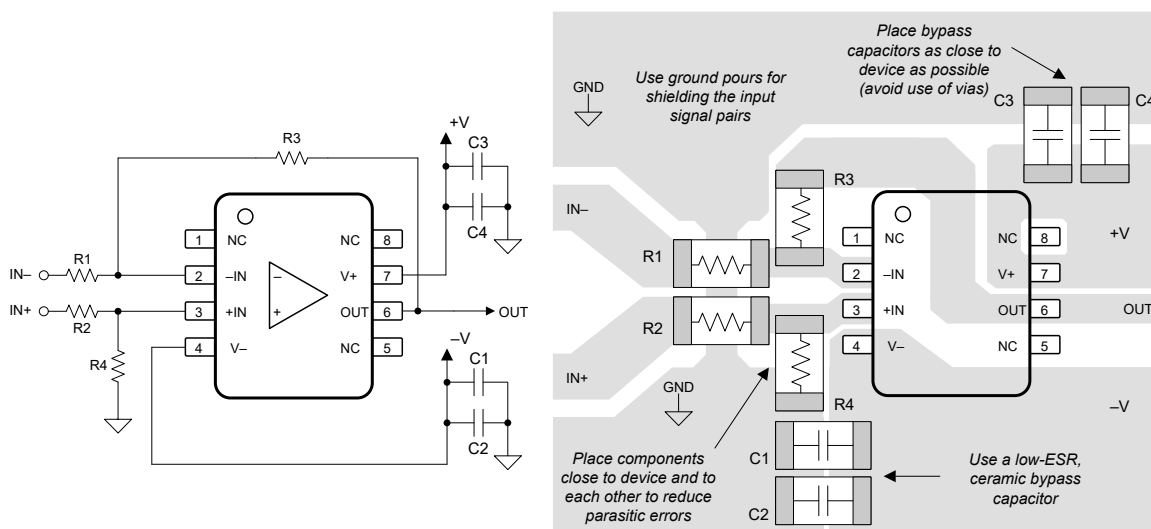

Figure 8-7. Operational Amplifier Board Layout for Difference Amplifier Configuration
- Place the external components as close as possible to the device. As Figure 8-7 shows, keep the feedback resistor (R3) and gain resistor (R4) close to the inverting input to minimize parasitic capacitance.